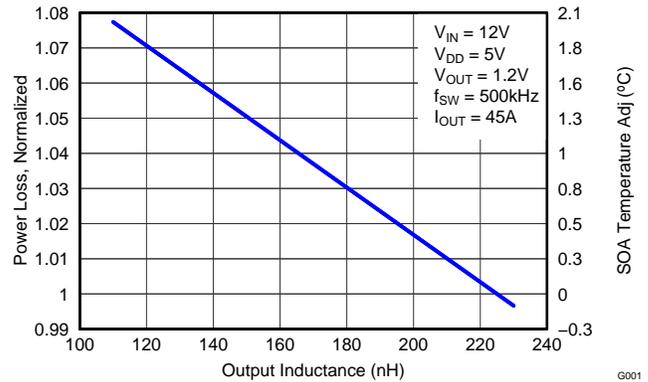

Figure 10. Normalized Power Loss vs Output Inductance
- Normalized Power Loss for output inductor ≈ 1.02 (Figure 10)
- SOA adjustment for output inductor $\approx 0.4^{\circ}\text{C}$ (Figure 10)